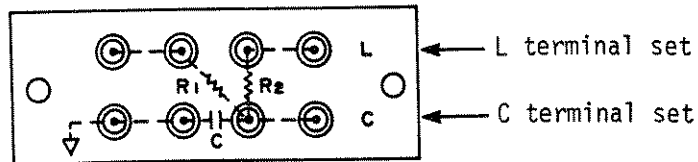

Figure 4-6. HP 16074A Quasi-inductor.
2. Connect 100 μ H quasi-inductor "C" terminals direct to 4274A UNKNOWN terminals. See Figure 4-6.